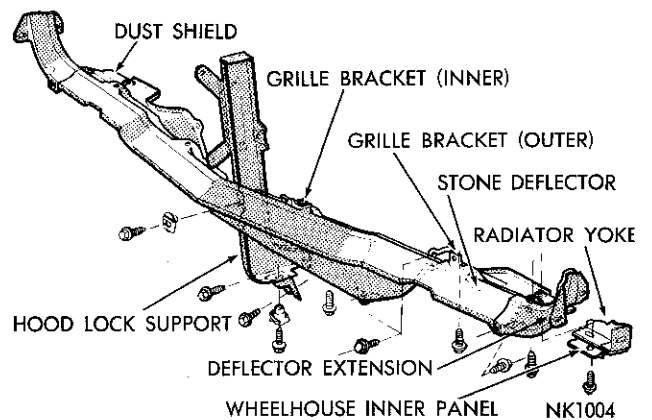
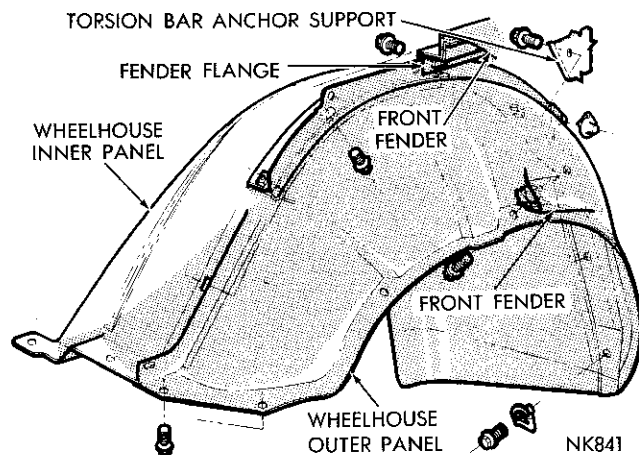

Fig. 9—Stone Deflector (Chrysler)
Fig. 10—Fender Wheelhouse (Chrysler)
- (1) Remove the bumper assembly.
- (2) Remove the grille assembly.
- (3) Remove the screws attaching the stone deflector and air shield (Fig. 9) to the hood lock vertical support, grille lower frame brackets, stone deflector extensions and the radiator yoke.
- (4) Lower the assembly out of the extensions and remove from the front of the vehicle.
To remove the wheelhouse assembly, inner and outer sections, (Fig. 10) it is first necessary to remove the bumper and fender assembly. The wheelhouse, at the front end, is attached between the frame and radiator yoke (Figs. 9 and 10). When installing the wheelhouse make sure it is correctly aligned before tightening the screws.